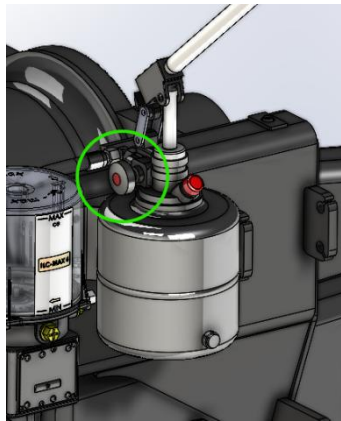

Figure 13-3 Position pressure release valve on the hand pump
7. When all valves are closed, the remaining pressure at the hand pump can be released by turning the rotary knob to the left of the handle, see Figure 13-3.
6. When all valves are closed, the residual hydraulic pressure in the hydraulic system can be released by turning the rotary knob to the left of the handle of the hand pump, see Figure 13-3.